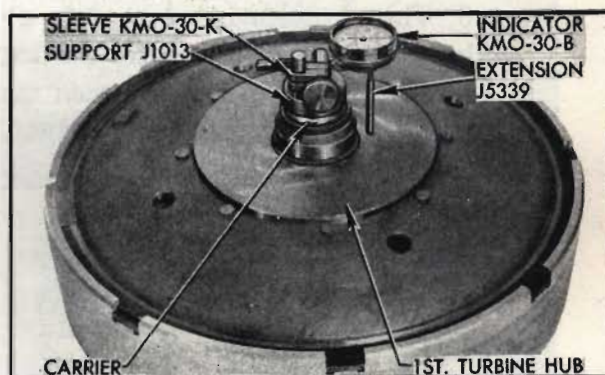

Fig. 39. Dial indicator on turbine assembly
8. Attach the dial indicator plunger to the dial indicator. Mount the indicator to the support with the sleeve. Place the indicator support on the protruding hub of the turbine carrier and adjust the dial indicator so that the extension bears at 90 degrees against the ground surface on the first turbine hub (Fig. 39). Set the dial indicator to zero.